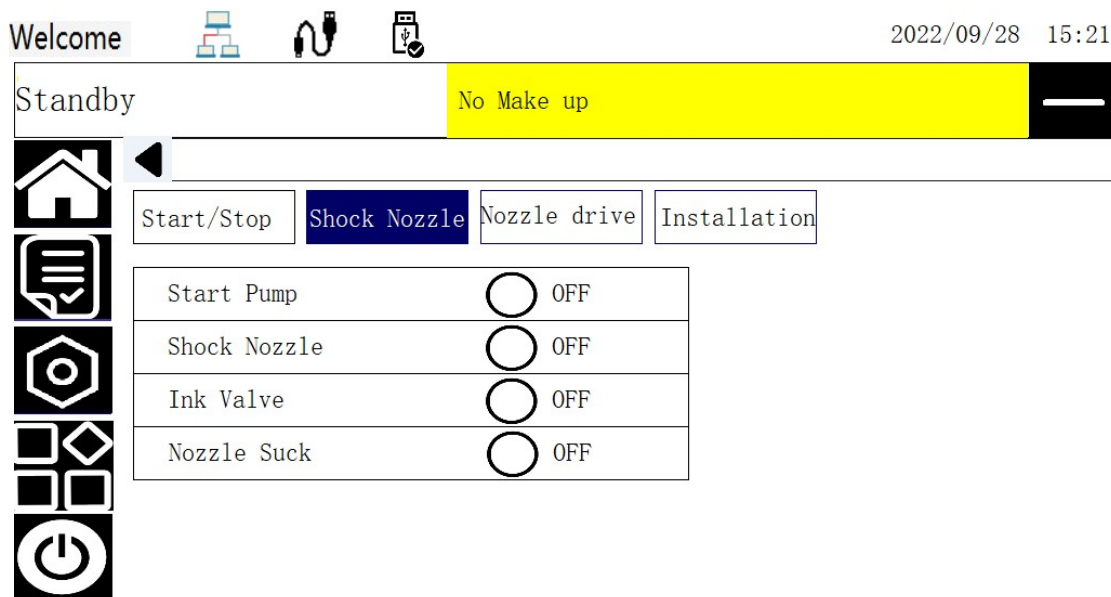

Figure 3-4
4、Touch the “Shock Nozzle” , first switch “Start Pump” to ON, and then perform the “Shock Nozzle” operation after starting, to exhaust gas and dredge the nozzle of the target system, as shown in Figure 3-4.